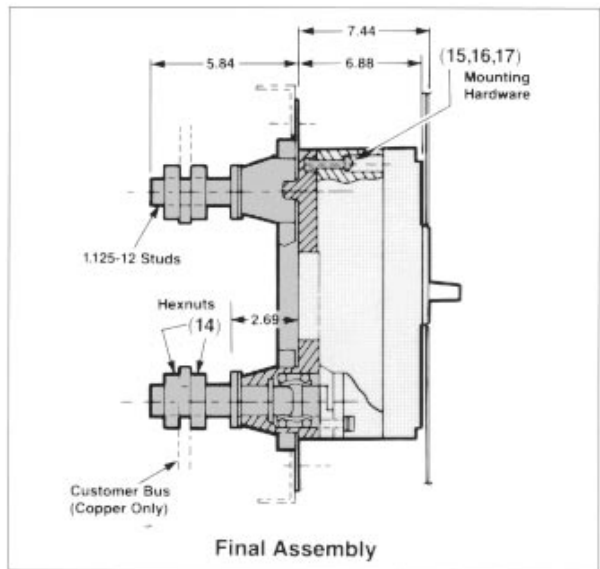

Figure 5
### Final Assembly (Figure 5)
- Make bus-connection to mounting block studs. Use Only Copper Bus Bars. Use hex nuts (14) furnished to secure this connection. Tighten to 2400 in.-lb. (Figure 5).
- Align breaker with mounting blocks and force female tulip clips over male studs in mounting block until breaker base bottoms against mounting block. Secure breaker in place with 3/8-16 x 1-1/2 in. mounting screws (15), lockwashers (16), and flatwashers (17) furnished. Tighten to 216 in.-lb.
- Replace breaker terminal shields (7) and secure with four breaker terminal shield screws (6). Tighten to 12 in.-lb.